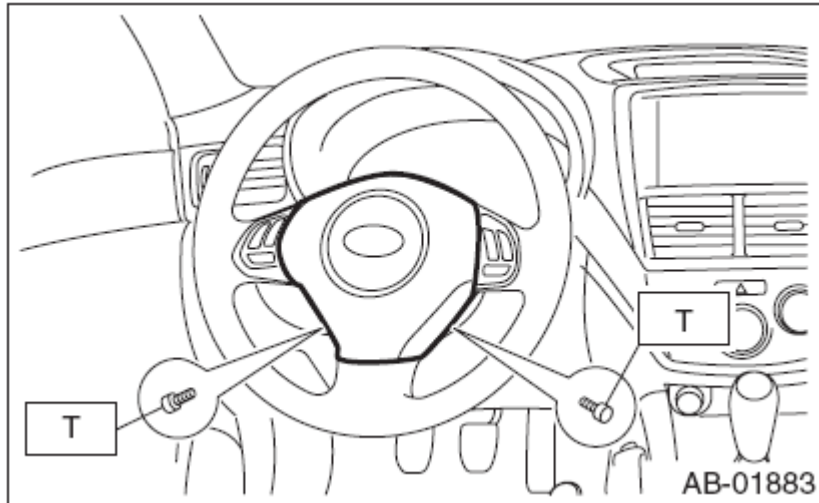

Fig 1.0 - "GR" MY08-09 Steering Wheel TORX Locations.
- You will find the two bolts on the left and right-hand side of the steering wheel, approximately at 9 and 3 o'clock (refer to figure 1.0 in the "Reference Images" section of this installation guide).